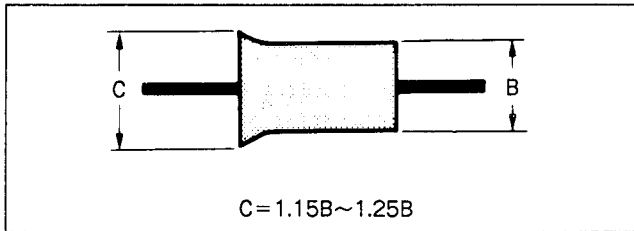

Fig. 7-76.
- 5) Raise the entrance side waveform slightly by rotating No.2 guide. (See Fig. 7-76.)